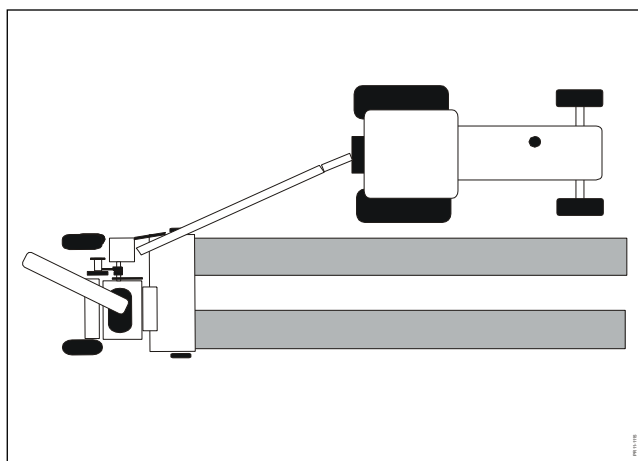

Fig. 6-9
- Fig. 6-9** 1) The forage harvester collects grass at the side of the tractor, i.e. offset. This allows a single wide swath or two double swaths to be collected, which is very well suited to the forage harvester. This is a very good operating technique when the crop is to be loaded into a trailer on the right hand side of the forage harvester.